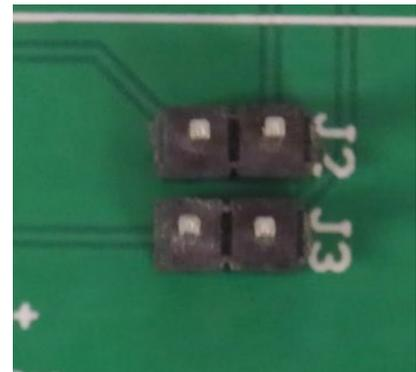

Figure 67: Correct orientation for J2 and J3.
54. The orientation for J2 and J3 is shown in Figure 67.